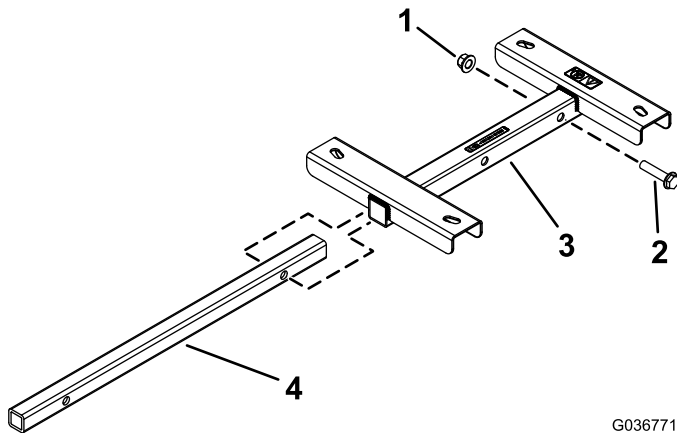

Figure 1
1. Insert the tube mount into the hose-reel mount until the holes in the tube mount align with the farthest holes in the hose-reel mount (Figure 1).
2. Secure the tube mount to the hose-reel mount with the hex-head screw (1/2 x 2-1/4 inches) and the locknut (1/2 inch) as shown in Figure 1.